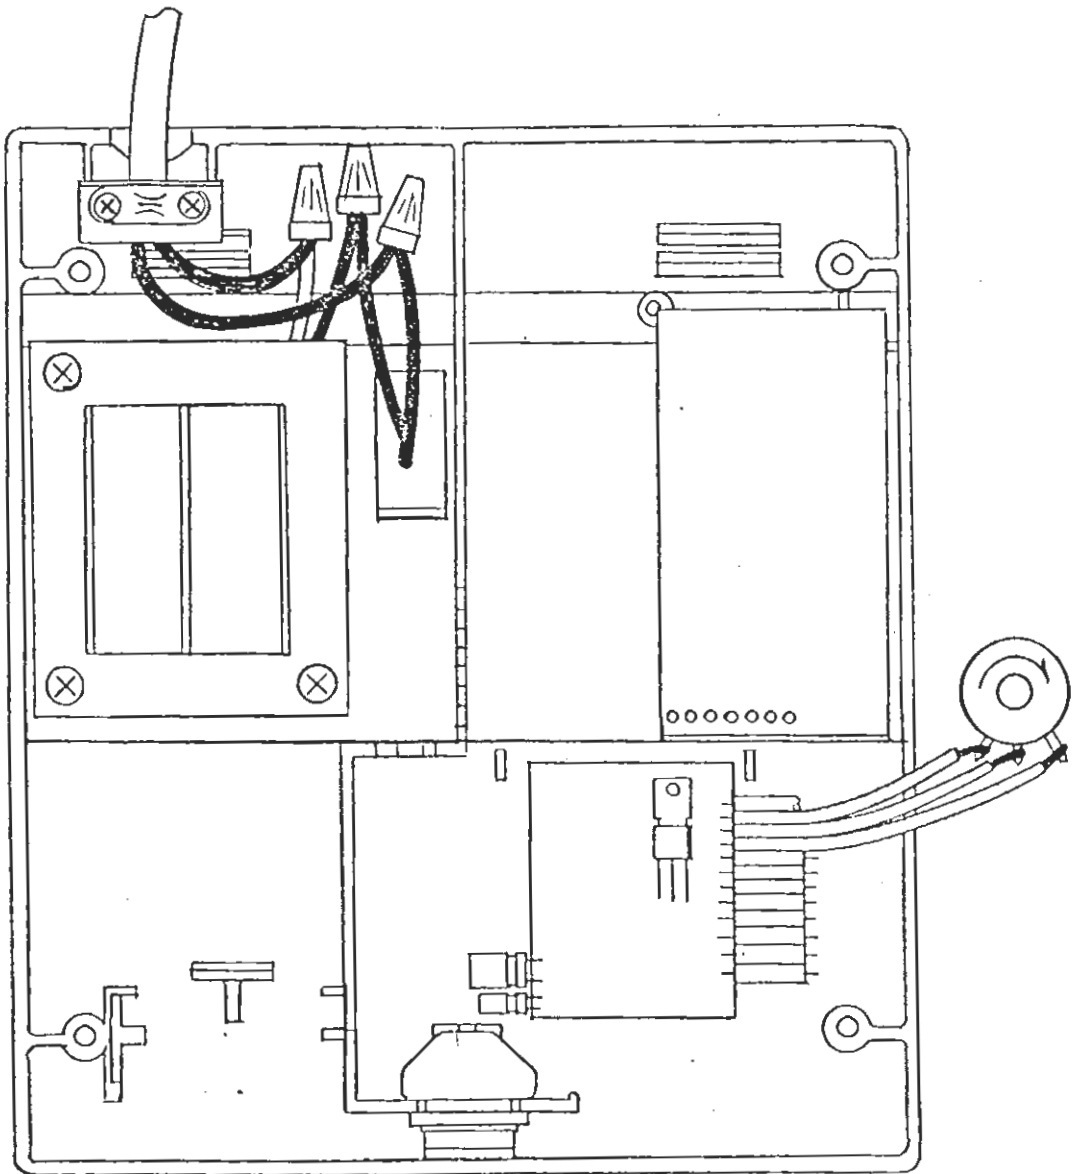

FIG. 2
6. Bend flat cable 90 degrees. Bend close to control board and away from taped side. **CAUTION:** Support the wires close to board to prevent damage to soldered joints. Pre-position board in case (top half) with flat cable towards case side (see Fig. 2). Remove board from case and remove release paper from foam tape and position board in case and press tape.